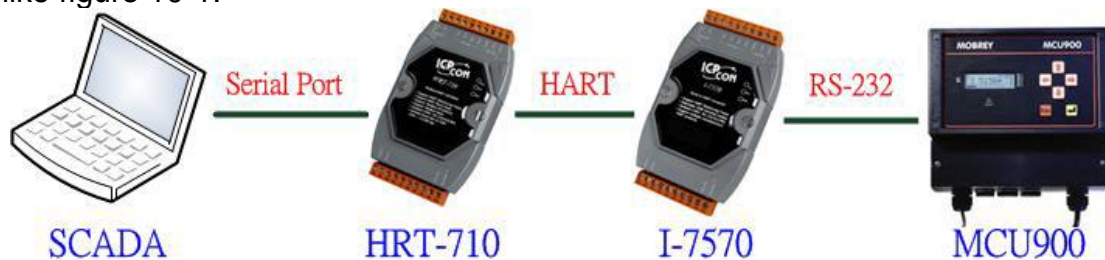

Figure 10-1 The Hardware Wiring for MCU900
1. We suggest the user to use **HRT-710** and **I-7570** to do that and the wiring for this case is like figure 10-1.